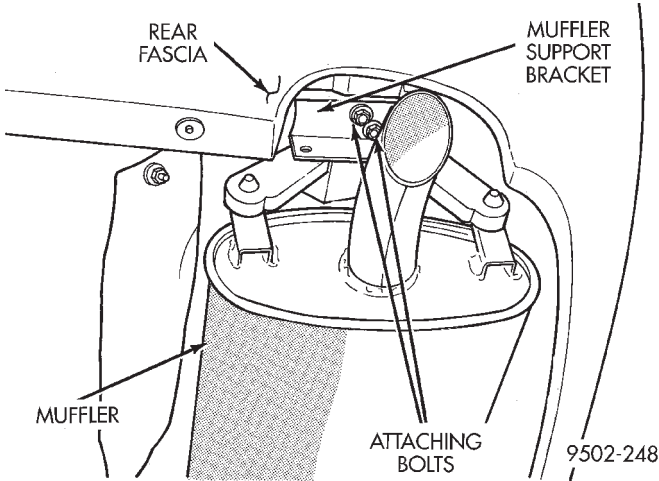
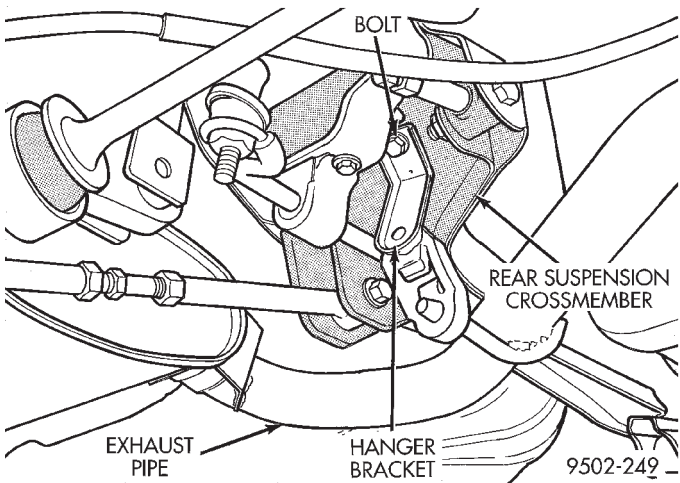

Fig. 35 Muffler Support Bracket
Fig. 36 Exhaust Pipe Hanger At Rear Suspension Crossmember
(4) Remove muffler support bracket from rear frame rail (Fig. 35).
(5) Remove the rear exhaust pipe hanger from the rear suspension crossmember (Fig. 36). Let the exhaust system drop down as far as possible.
(6) Align lateral links with knuckles and install the lateral arm to knuckle attaching bolts and washers. Tighten the 4 lateral arm to knuckle attaching bolts to a torque of 107 N·m (80 ft. lbs.).
(7) Remove transmission jack supporting rear suspension crossmember.
(8) Install muffler support bracket on rear frame rail (Fig. 35). Install rear exhaust pipe hanger on rear suspension crossmember (Fig. 36).